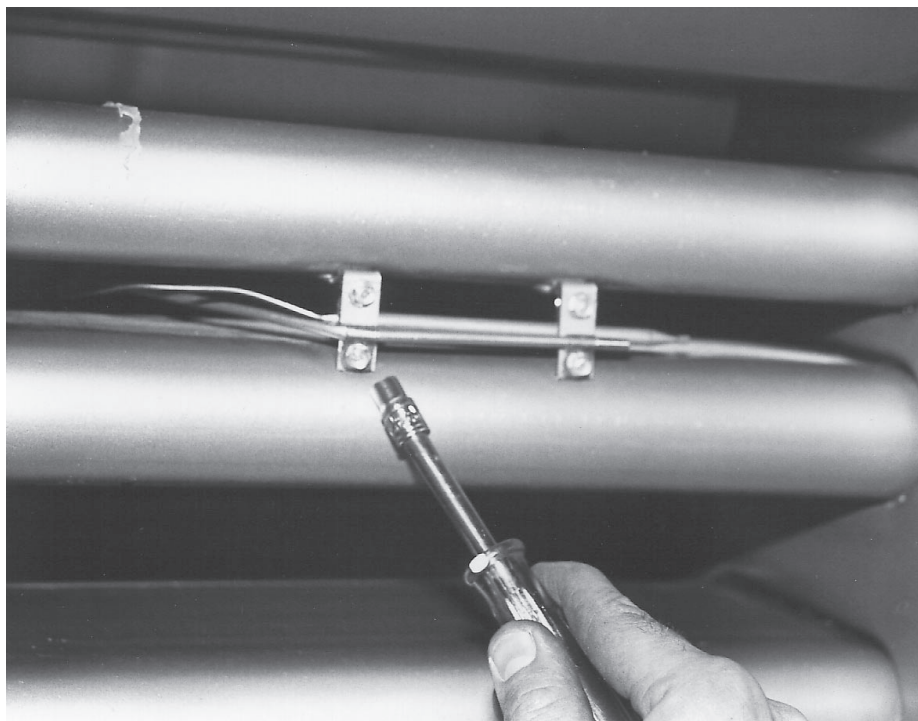

Fig. 24
5. From inside the fryer tank, with a 1/4" socket remove (4) #8 screws and holding brackets for the limit bulb. (Fig. 24)